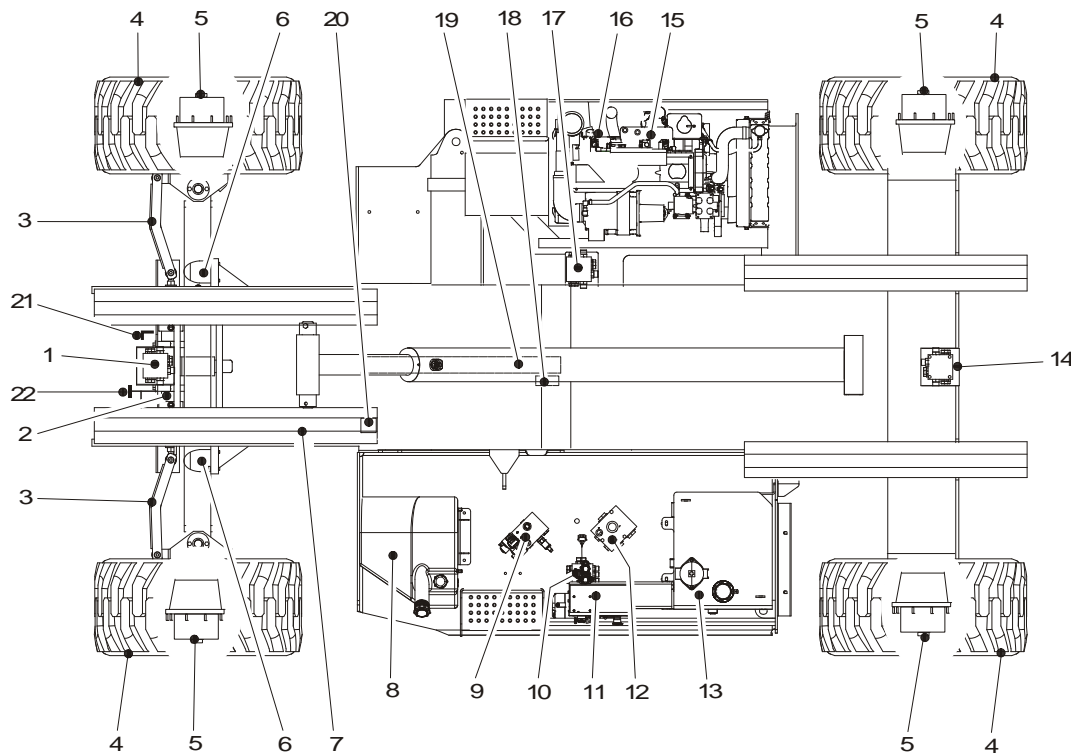

Figure 2-1. Walk Around Inspection Diagram
5. **“Walk-Around” Inspection** – Refer to Figure 2-1.